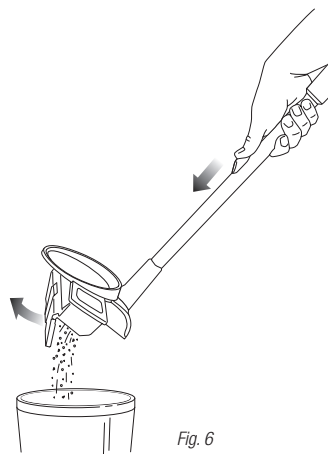

Fig. 6
- 7 Over a trash can, empty the dust cup by pressing the bottom-empty button on the lower portion of the handle. When it's empty, gently snap the No-Touch dust cup back into place. (fig. 6)